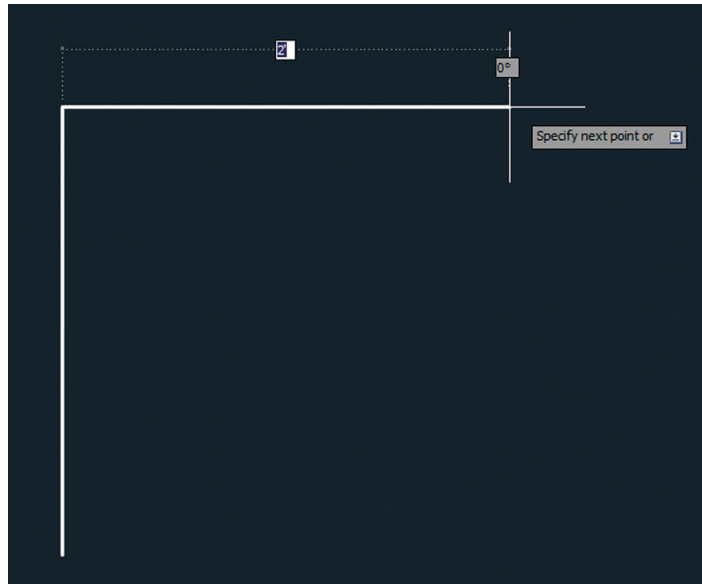

FIGURE 3.4 Using Snap to gauge distances without typing specific measurements
8. Type L and press Enter twice to continue drawing from the last point. Toggle Grid off in the status bar. Move the cursor horizontally to the right from the point at which the rubber band is anchored. Click the drawing canvas when the dynamic input value reads 2'-0" (or 600 mm), as shown in Figure 3.4, and press Enter.